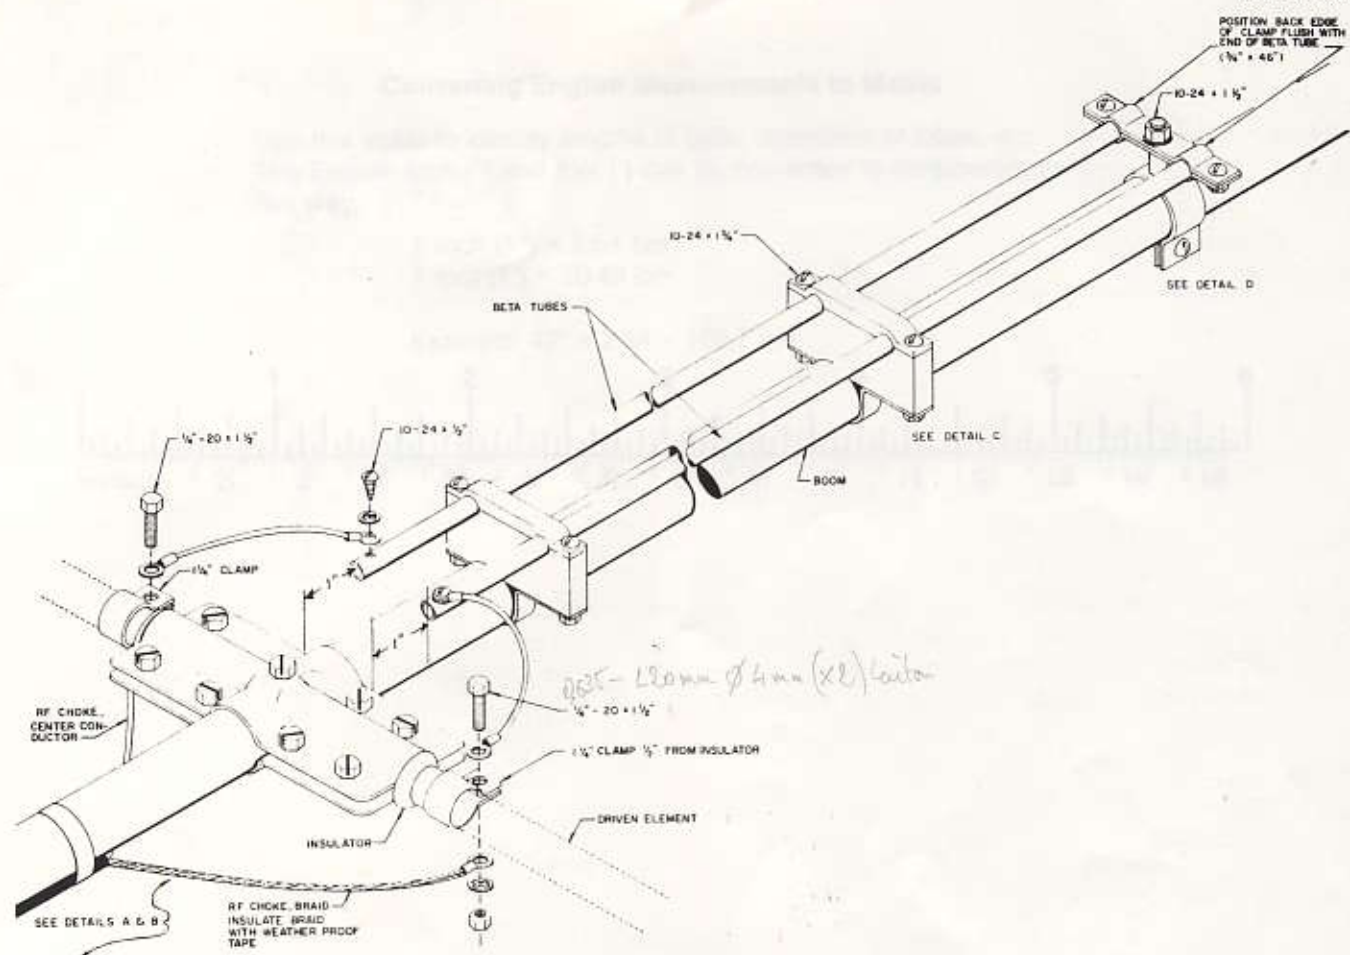

Figure 14
Select the beta match tubes ($\frac{3}{4}$ " x 46", 116.8 cm long, item 10) and the beta support insulators and clamps as shown in Figure 14 and Detail C & D. Assemble the beta match tubes in the boom as shown in Figure 14 and Detail C & D.
Select the beta match shorting clamps and the shorting strap and assemble as shown in Figure 14 and Detail D. Notice that the #10-24 x $1\frac{1}{2}$ " screw attaching the shorting clamps to the strap has a sleeve slipped over it. This allows you to install the shorting clamps without putting undue strain on the beta match tubes.
Install the pigtail assemblies (item 55) on the beta match tubes using the two #10 screws (item 32) and lockwashers (item 42). Slip the $\frac{1}{4}$ " tubing clamps on the Driven Element near the insulator. Loosely attach the pigtails to the tubing clamps using the $\frac{1}{4}$ "-20 x $1\frac{1}{2}$ " screws as shown in Figure 14. Do **NOT** tighten the connection at this time. The coaxial feedline will connect to this point in a later step.
If you wish, you may wind yourself an RF choke. The choke consists of 12 turns of RG-8/u coaxial feedline with 6" (15.2 cm) diameter. Strip one end of the choke as shown in Figure 14 and Detail B and connect to the tubing clamps on the Driven Element. Tape the choke securely to the boom and weatherproof the connection to the Driven Element using Pli-O-Bond, Neoprene or some similar substance.